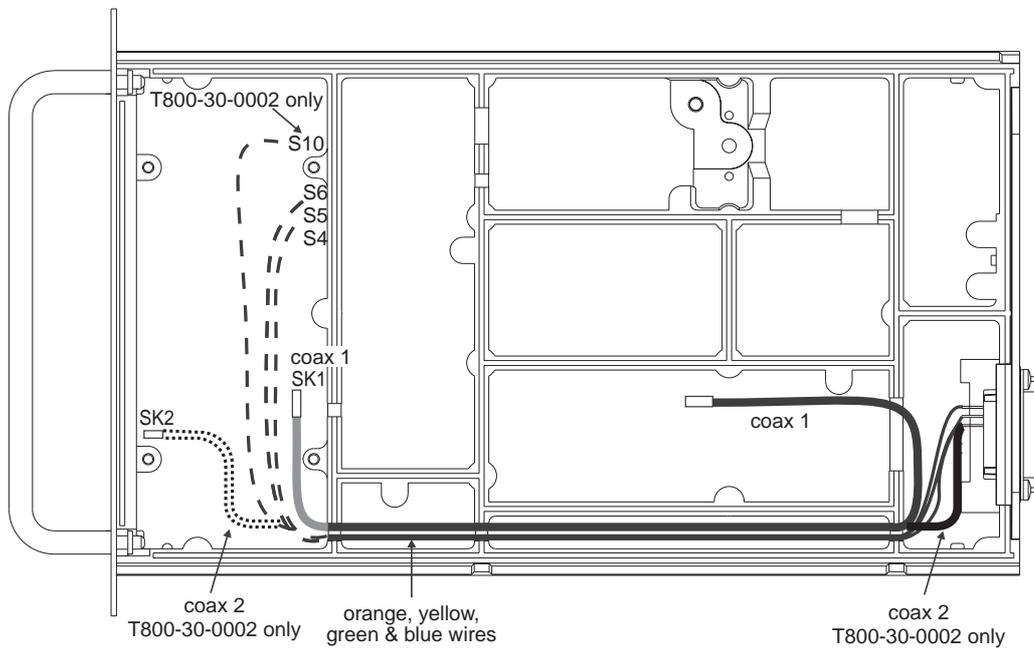

Figure 4 Cable Routing
9. Connect the coaxial cable provided between SK1 on the T800-30-0000/0002 PCB and =SK710 on the T800 Series II transmitter PCB, as shown in Figure 4.